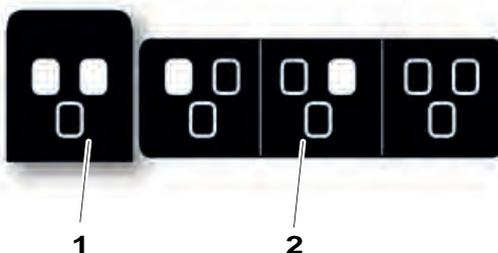

Fig. 3-26 *AEC field selection*
When selecting the *AEC field* button, a pop-up-window with the different *AEC fields* according to Fig. 3-26 *AEC field selection*, will appear. The *AEC fields* are activated by a selection in the pop-up window to the right (2). All activated *AEC fields* will be shown in the left picture (1). *AEC fields* are deactivated by selecting them again in the pop-up window (2).